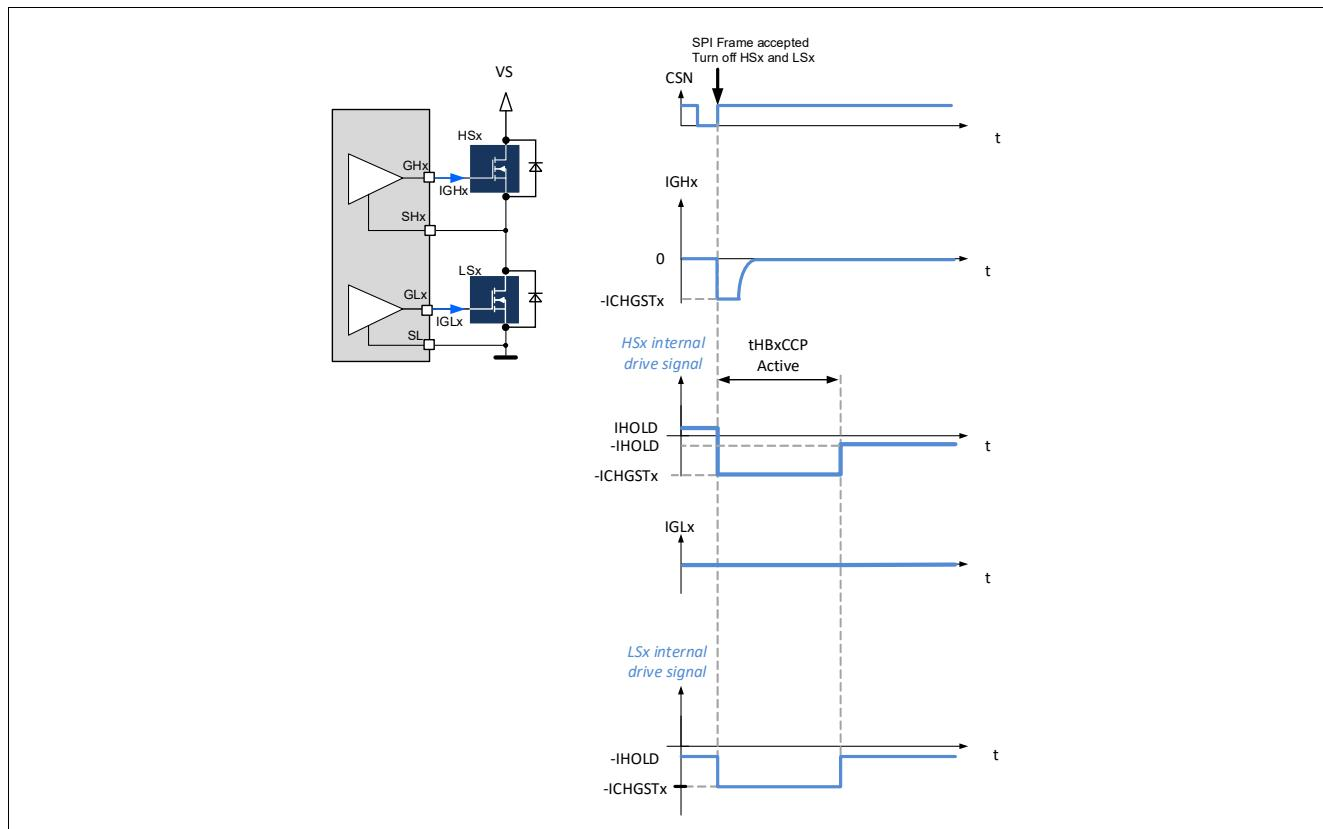

Figure 50 Turn-off of the high-side and low-side MOSFETs of a half-bridge
- The gate of HSx and LSx are discharged with the current $-ICHGSTx$ for the duration $t_{HBxCCP\ ACTIVE}$ (Figure 50).